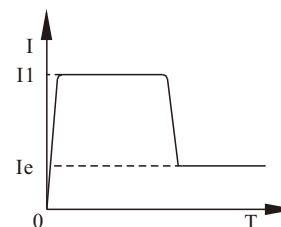

Figure 10
- Figure 10 illustrates the motor current waveform in current-limit starting mode, where I_1 is the set starting current limit. When the motor starts, the output voltage increases rapidly until the motor current reaches the set limit I_1 and is held at or below this value. The motor then accelerates as the output voltage rises gradually. When the motor reaches rated speed, the bypass contactor closes, and the output current drops rapidly to the motor's rated current I_e or below, completing the starting process.